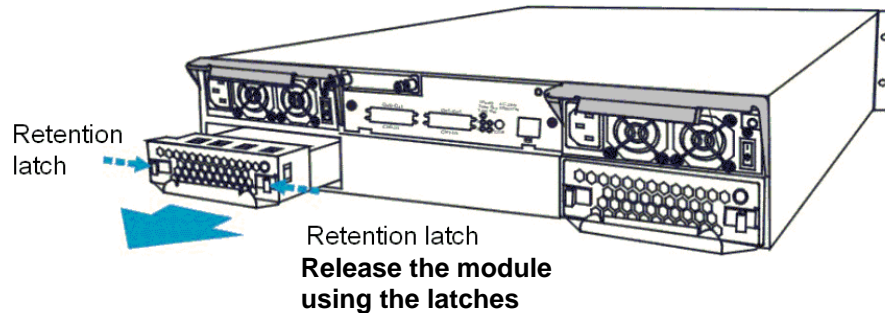

Figure 5- 10: Removing the Cooling Fan Module
Step 1. **To remove the cooling fan module:** Squeeze both side latches towards the center of the cooling fan module and gently withdraw the cooling fan module from the subsystem by gently pulling on the silver handle at the bottom. (See *Figure 5- 10*).